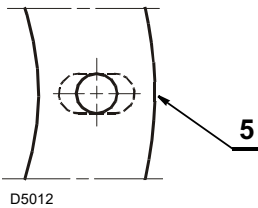

Fig. 7
- If necessary, widen the holes of the insulating gasket 5) Fig. 7.